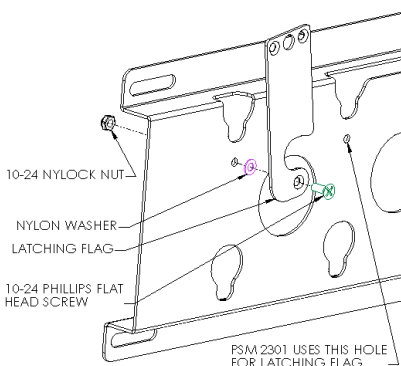

Figure 2
1. Attach latching flag to mount using the 10-24 phillips flat head screw, Nylon washer, and Nylock nut (see Figure 2). Tighten until friction will hold the flag in place. Note: for PSM 2301 the flag should be placed at one of the center holes.